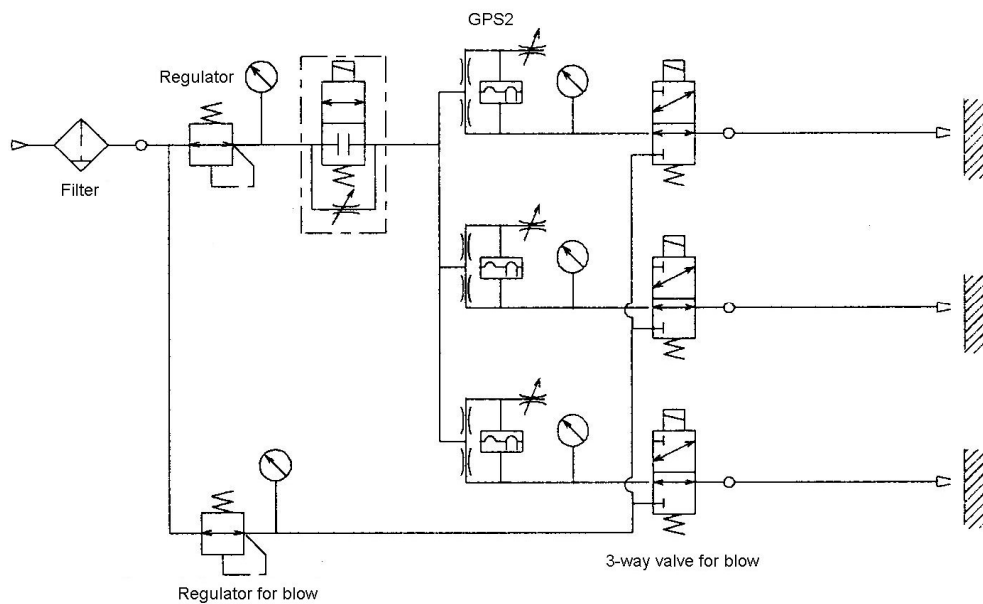

Figure 2 Using 3-way valve for blow
- 6) Cutting or grinder chips may block the nozzle. An increase in the supply pressure will not be able to blow the chips off because the internal orifice will choke the flow. To enable the blow-off, install a 3-way valve to the detection port side as in Fig. 2. The orifice of the 3-way valve has to be 2.5 mm or larger in diameter.